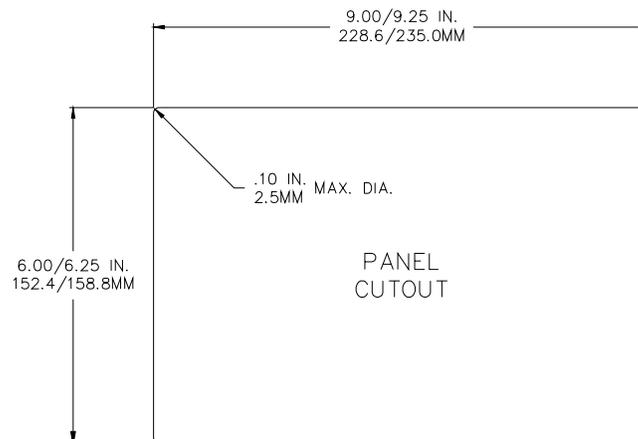
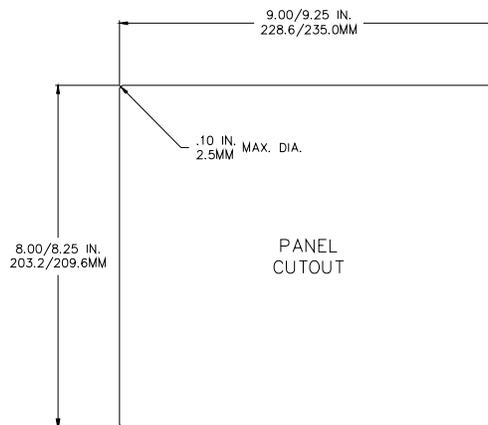

Figure 2-2: 460 Panel Mount Cut-Out Dimensions
Figure 2-3: 465 Panel Mount Cut-Out Dimensions
The procedure for installing a 460 and 465 panel mount indicator is identical with the exception of the panel cut-out size (see Figure 2-2 and Figure 2-3).
Figure 2-2 shows the cut-out dimensions for the 460 panel mount indicator.
Figure 2-3 shows the cut-out dimensions for the 465 panel mount indicator.
1. Make a cut-out in the panel using the dimensions specified in Figure 2-2 for a 460 indicator or Figure 2-3 for a 465 indicator.